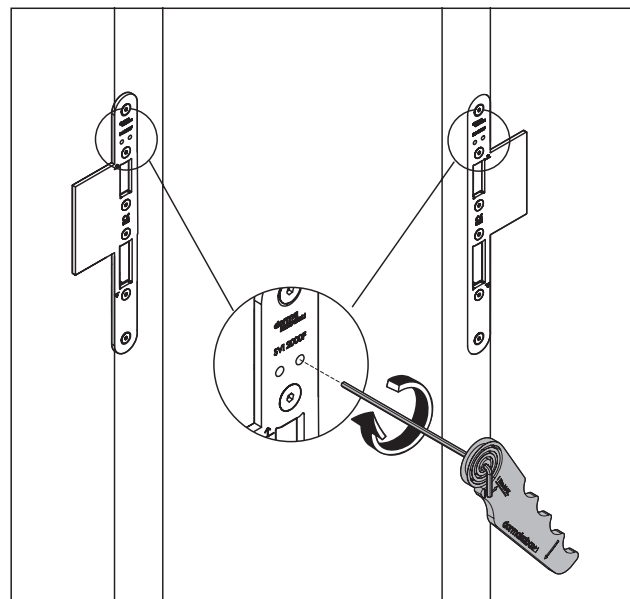

Fig. 57 Fix upper espagnolette bolt
2. Fix the upper espagnolette bolt through the drill hole in the forend with 1.3 Nm (Fig. 57).